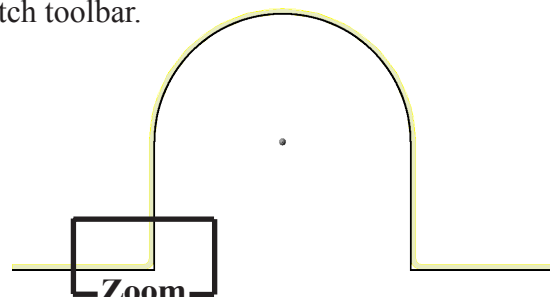

Fig. 5
Step 11. Zoom in around **corner, Fig. 5**. To **zoom**, hold down **Shift** key and drag with middle mouse button (wheel). To **pan**, hold down **Ctrl** key and drag with middle mouse button (wheel).